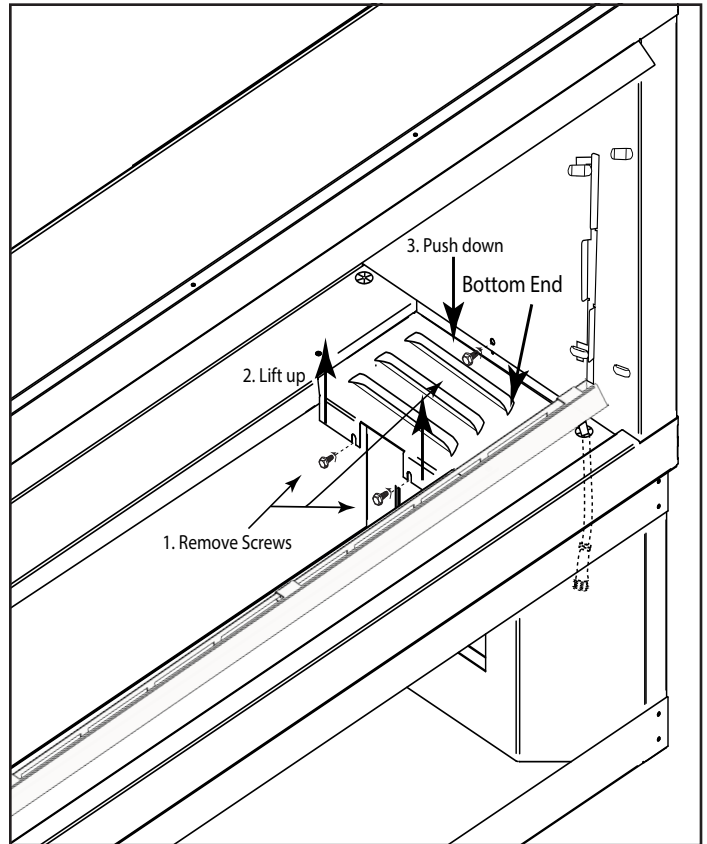

Fig. 22 Removing bottom end
**Step 7:** If needed, remove the screws from the “bottom end” of the burner pan area to provide additional room for wiring the LED lights. The “bottom end” fills the space between the burner pan and the fireplace side panel. It is held into place with three (3) screws. See Fig. 22. First remove the two inside screws, then the screw securing the side wall. Lift up the area where the two screws were and push down where the single screw was, then lift the bottom end out of the fireplace.